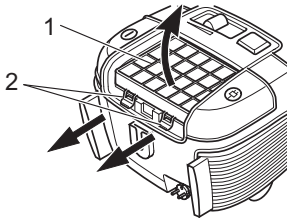

Fig.27
3. Remove the filter (Fig. 27/1). To do this, pull the locks (Fig. 27/2) back and lift the filter up and out.